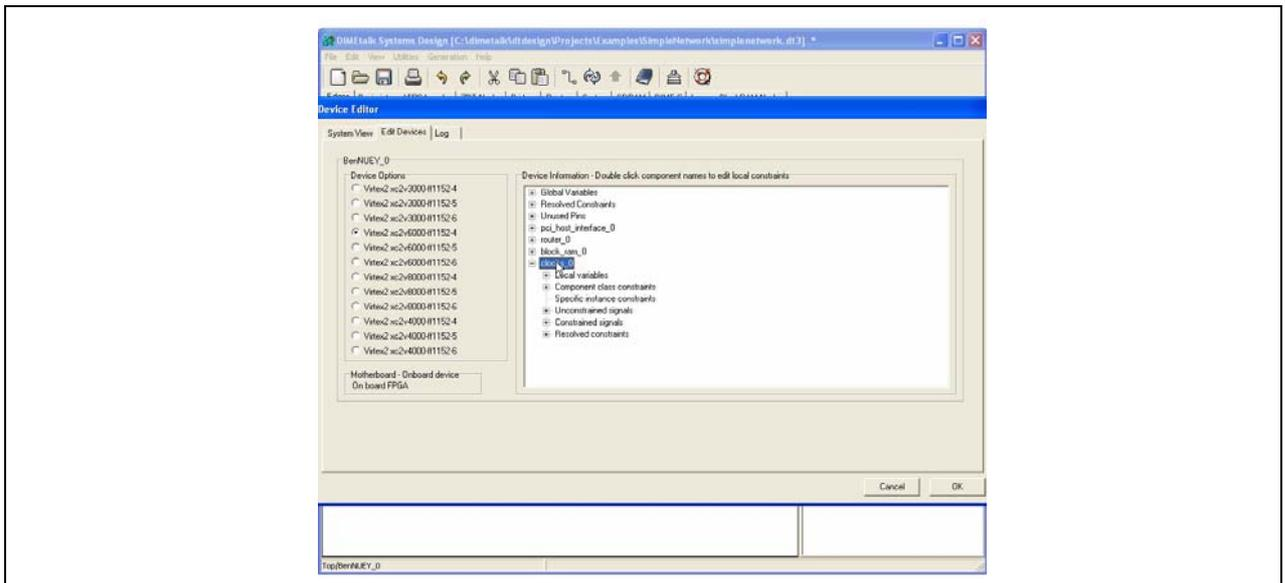

Figure 45: DIMETalk Device Editor
3. In order to make the 'lock' signal available for external wiring, right-click the black terminal at the side of the Clock and Reset component and select **'Wire up a level'** from the menu. Right-click anywhere in the device to open the Device Editor. In the Device Editor go to the 'Edit Devices' tab and double-click on the 'clocks_0' component as shown in **Figure 45**.